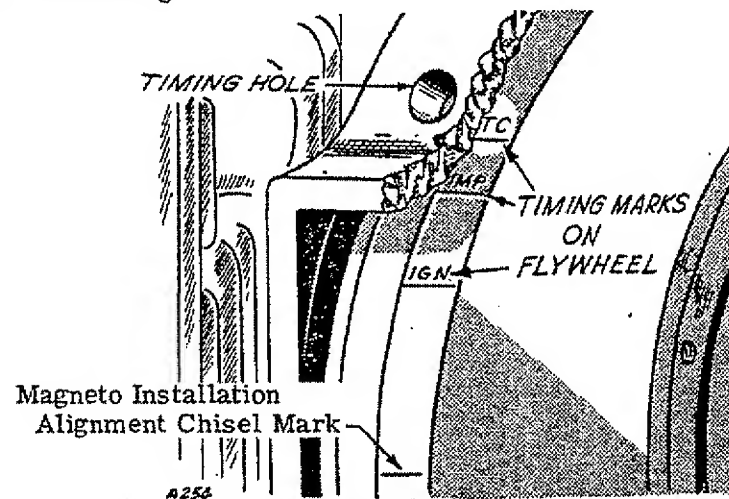

Fig. 23 Ignition Timing Marks
**IGNITION TIMING.** - Correct ignition timing is important to good engine performance. The ignition timing should be checked after servicing or replacing the magneto contact points. Refer to Fig. 23.